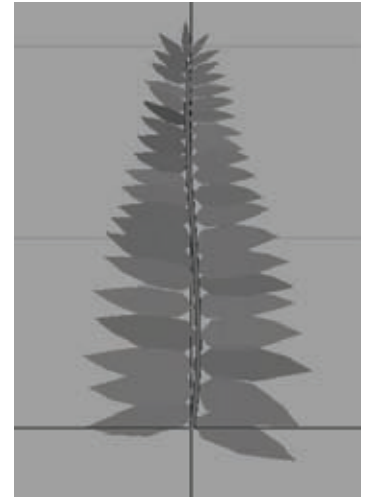

Figure 2.27
5. Move, scale, and rotate the leaf to place it on the branch. Duplicate and repeat this process until the branch is covered in leaves to your liking. Scale them in such a way that, as the leaves approach the tip of the branch, they get smaller and thinner. Toward the base of the branch, the leaves are thicker and larger. Mine ended up like Figure 2.27.